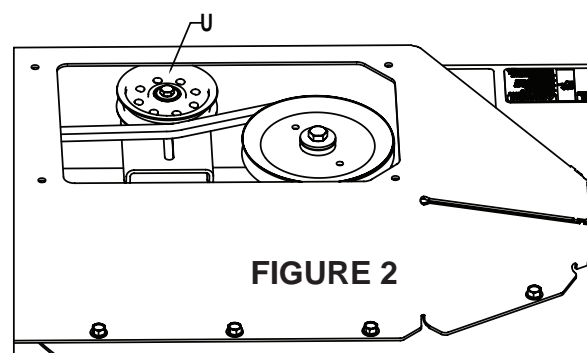

FIGURE 2
2. Loosen the bolt **U** holding the small pulley just enough to move the pulley back and forth. **(Figure 2)**
1. To decrease maximum travel speed of the machine, turn the speed adjustment knob **A** clockwise. **(Figure 2)**